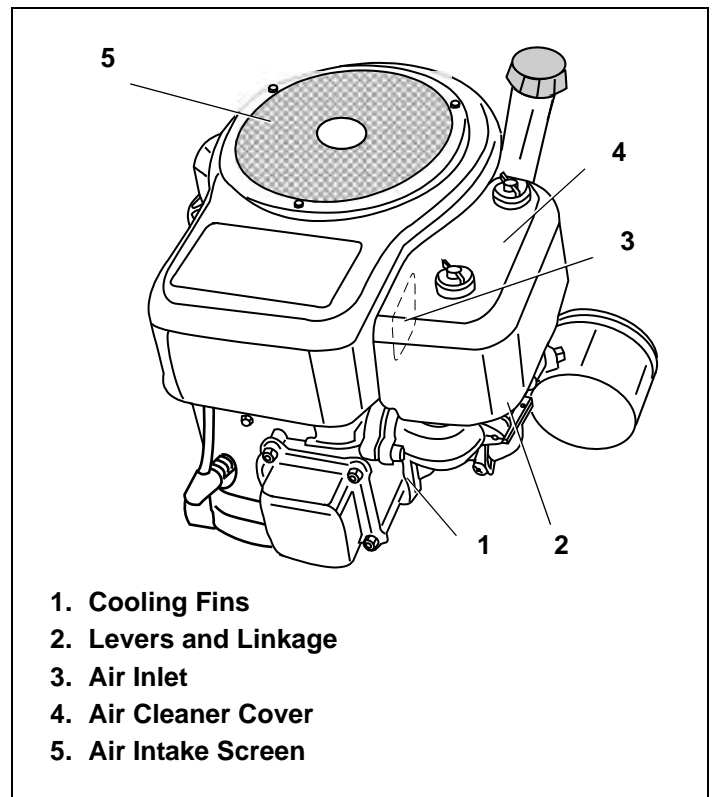

Figure 21. Debris Locations
Removing debris will insure adequate cooling, correct engine speed and reduce the risk of fire. See Figure 21.
Before removing air cleaner cover, see "III. Filter Removal/Installation" instructions on page 12. Special care should be taken to prevent damage when removing air cleaner cover. See Figure 21. Afterward, continue reading instructions below.
1. Remove air cleaner cover and filters. See Figure 21.